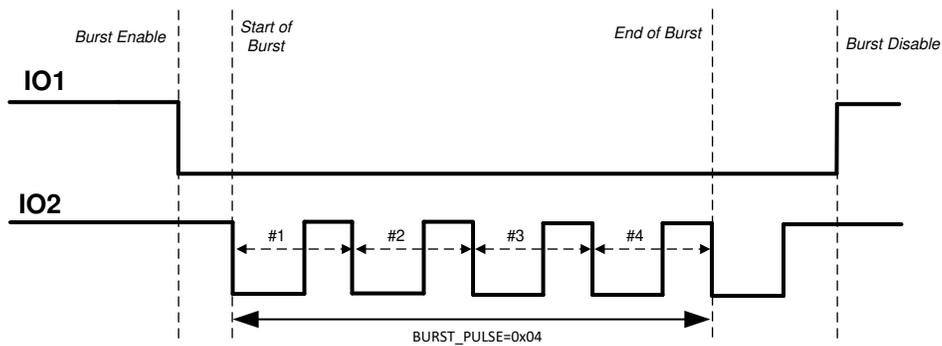

Figure 16. IO_MODE 1 Description
- IO_MODE = 1:** In this mode, the external clock for the transducer is applied at the IO2 pin and the burst mode is enabled when IO1 pin transitions low as shown in Figure 16. The device then expects a clock at IO2 pin to generate pulses on the OUTA/OUTB pins. The start of burst happens from the first falling edge of IO2. The number of pulses are counted by counting falling edge to next falling edge transitions on IO2 once the start of burst is triggered. End of burst sequence is signaled when the number of pulses defined in BURST_PULSE are sent or IO1 transitions high, whichever occurs earlier. TI recommends that IO2 is held high before start of burst to count the number of pulse correctly. After the start of burst, the state of OUTA and OUTB pins are determined by IO1 and IO2 pins as shown in Table 22. A transition of IO1 from low to high to low again is required to initiate a new burst sequence.